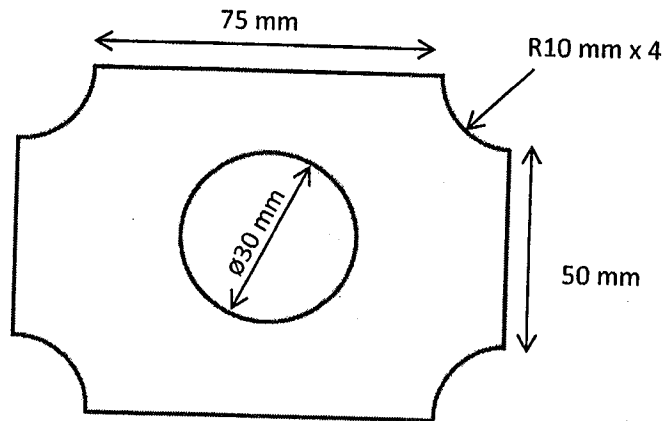

Figure 03
- c. Write G-code for the part shown in Figure 03. List of G-codes and M-codes are given at the end of the question paper. Thickness of the part is 8mm. Give the diameter of the tool used, selected origin for the work coordinate system and other assumed data. (15 mark)